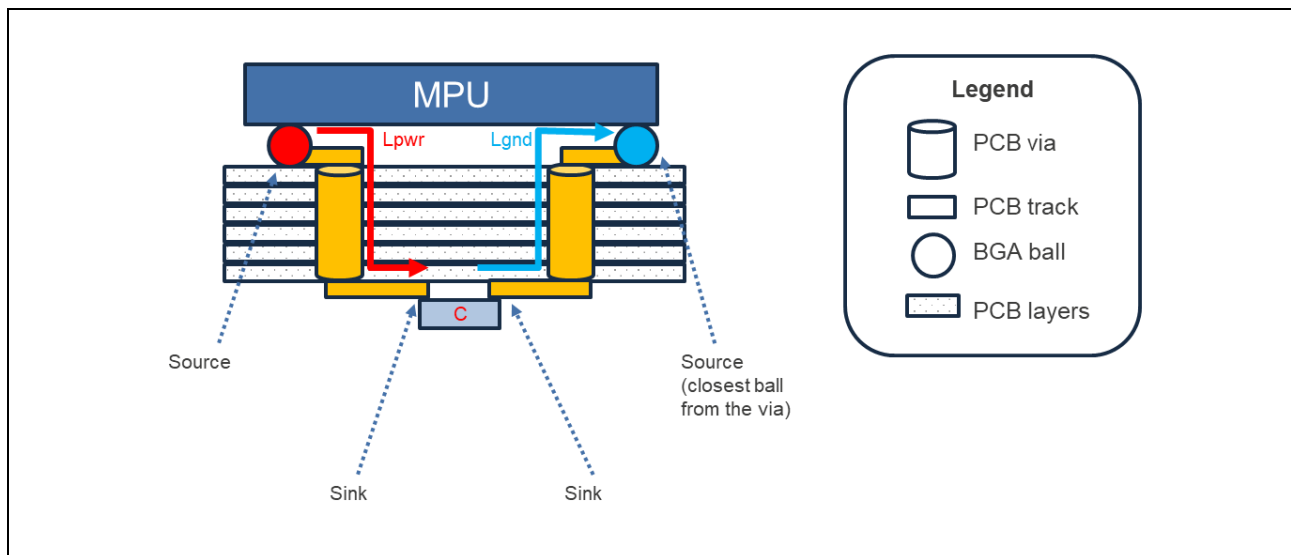

Figure 5.6 Concept for Direct Modeling
**Figure 5.6** illustrates direct modeling.